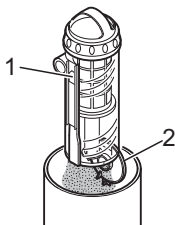

Fig.18
3. Push the release button (Fig. 18/1). The base (Fig. 18/2) opens and the dust runs into the dustbin.